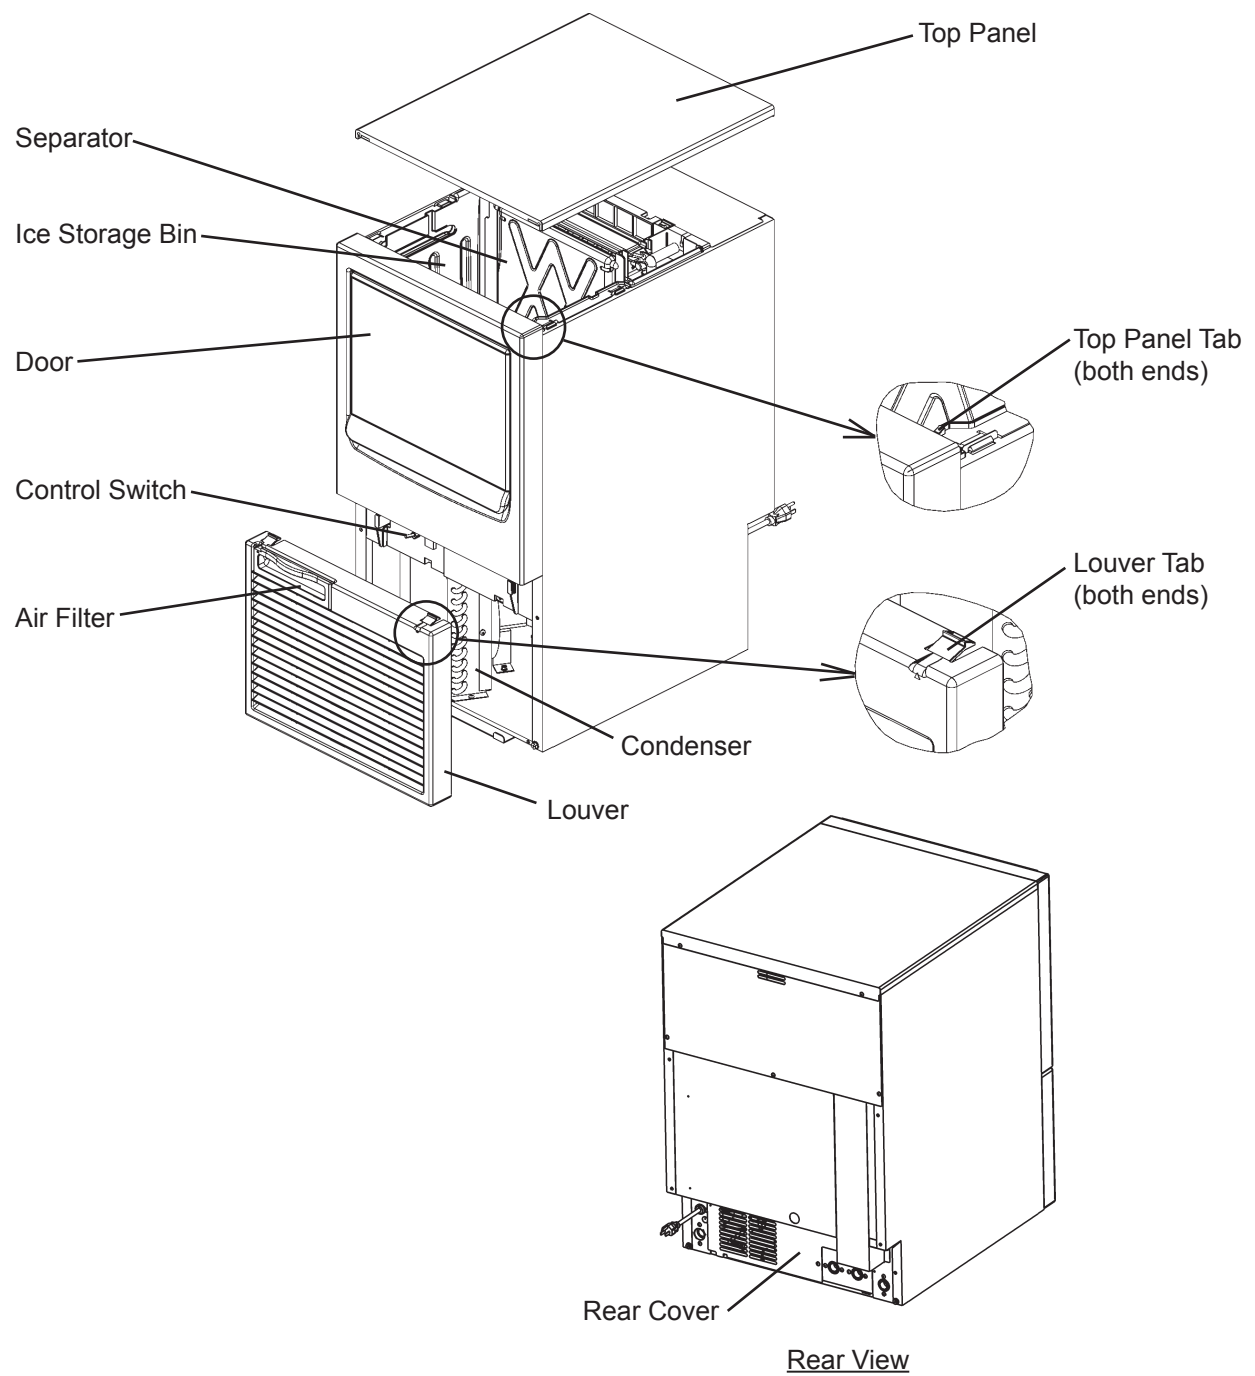

Fig. 1
• Remove all shipping cartons, tape, and packing material. If any are left in the appliance, it will not work properly. • Remove the shipping tape holding the door and separator. See Fig. 1.
- Remove the shipping tape holding the door and separator. See Fig. 1.
C. How to Remove Panels - See Fig. 1